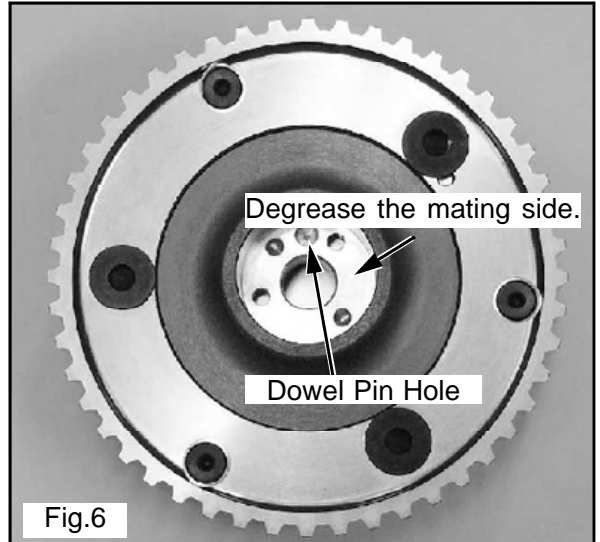

Fig.6
- (1) Degrease the edge of V-Cam and the mating side of the variable valve timing unit.
- (2) After making sure the dowel pin and the dowel pin hose position are correct, insert the variable valve timing unit into the V-Cam. (See Fig.6)